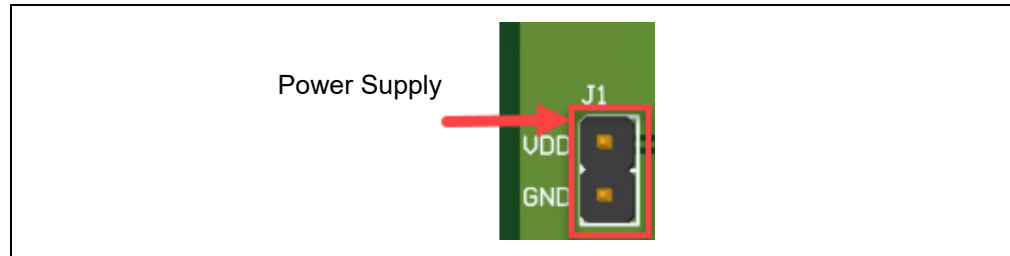

FIGURE 2-2: Power Supply Connection.
1. Connect the +5.5V DC power supply at VDD (J1 connector) on the MCP1502 Evaluation Board as shown in Figure 2-2.